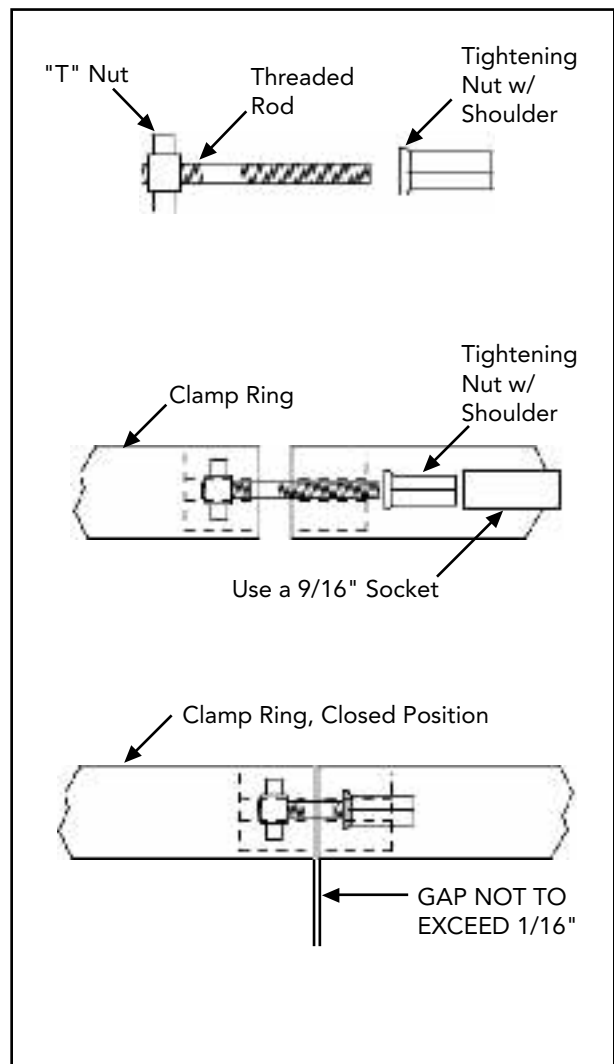

Figure 6- Filter Clamp Ring Assembly
3. Place the "T" nut and threaded rod assembly into the clamp. Be sure the "T" nut is seated in the clamp in the proper orientation (See Fig. 6).
4. Use a 9/16" socket on the tightening nut until the clamp ring halves touch each other, or are within 1/16" (See Fig. 6) but do not overtighten as the clamp can break. If unable to tighten as indicated, do not operate the filter and call a service technician immediately.